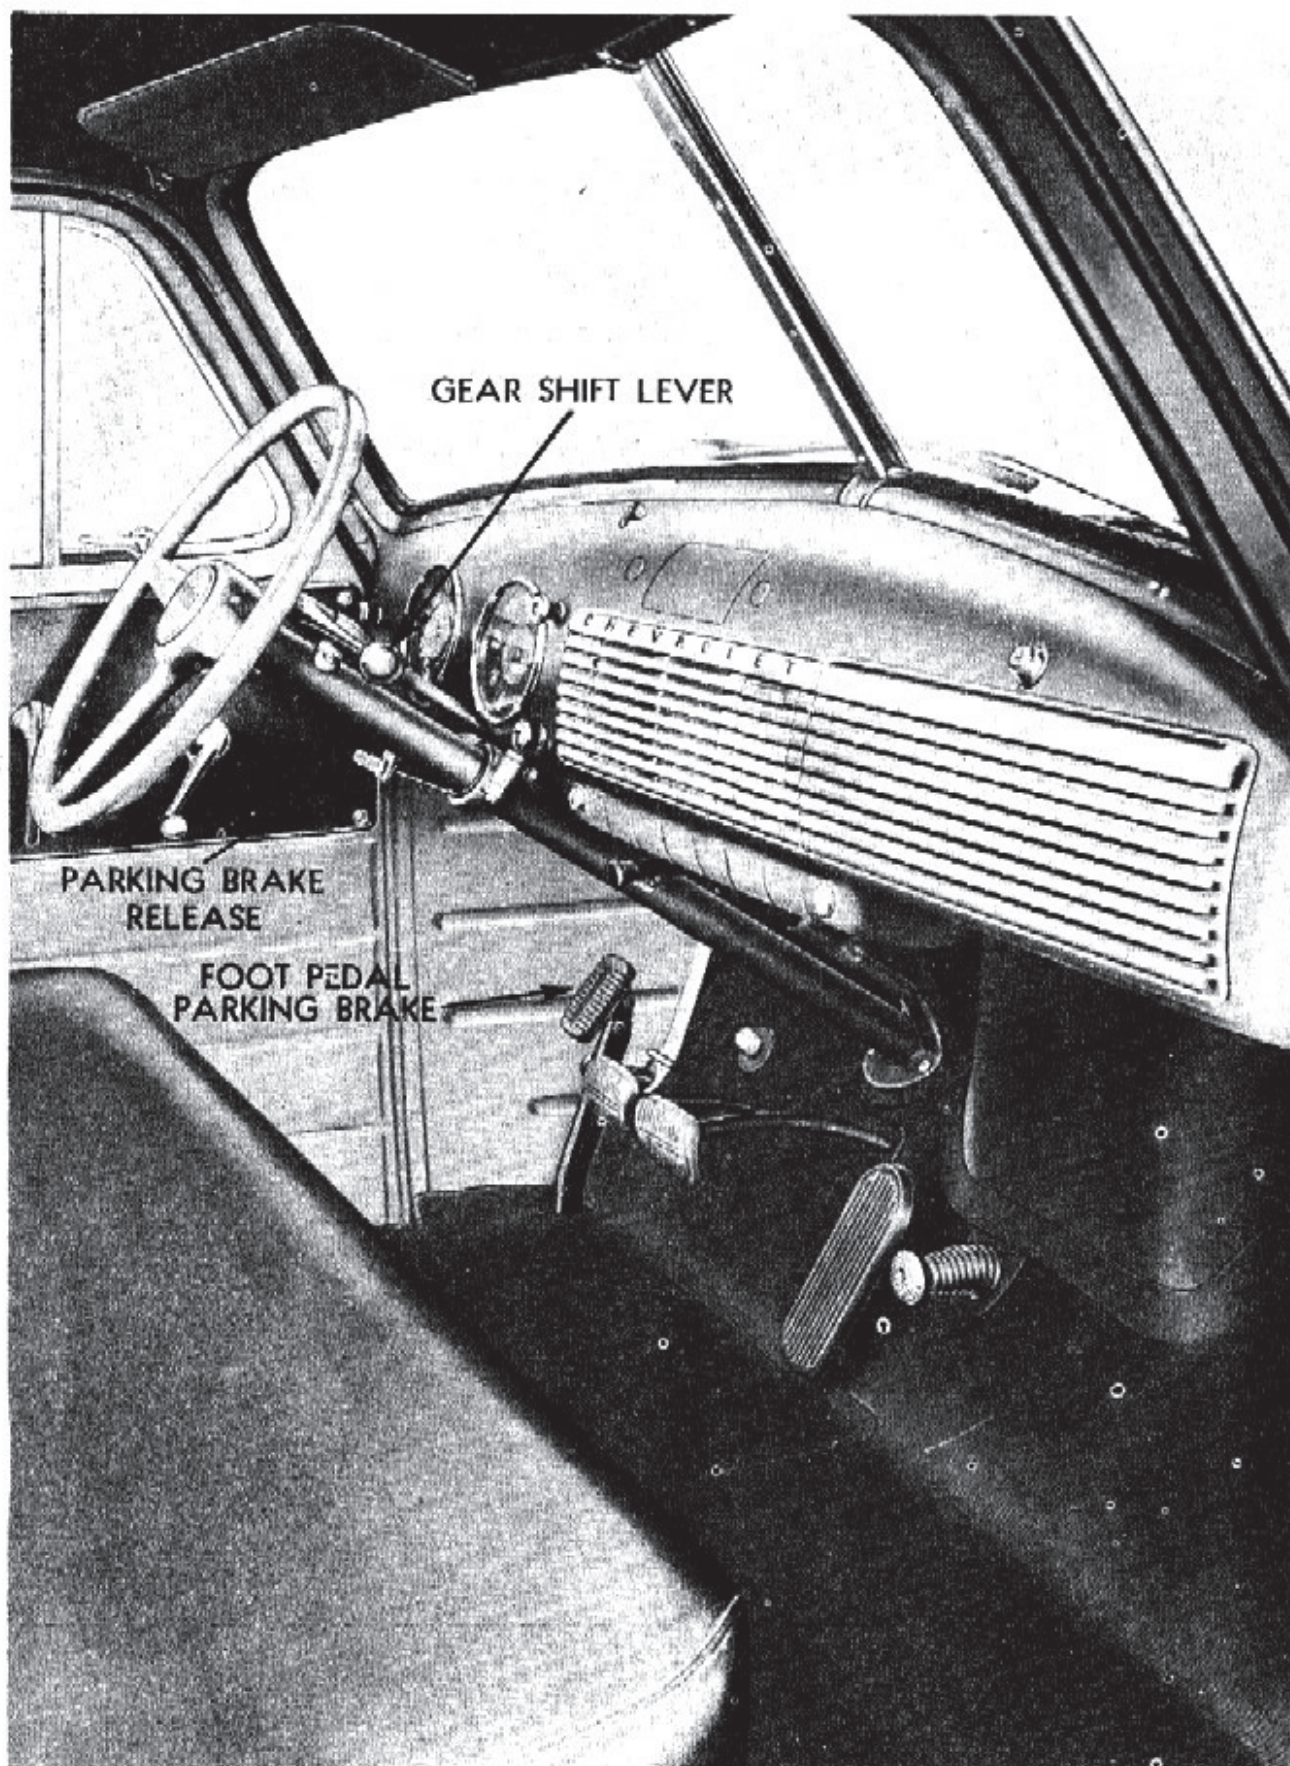

Fig. 1—Controls and Instruments— $\frac{1}{2}$  and  $\frac{3}{4}$  Ton
The type, location and operation of instruments and controls vary on different models and makes of vehicles; therefore, regardless of the experience an owner or driver may have had it is advisable to familiarize one's self with the instruments and controls, and their use before driving this new truck. The locations of the various instruments and controls are shown in figures 1 and 2.
**Gearshift Lever (3-speed Synchro-mesh Transmission).** Gearshift control on all  $\frac{1}{2}$  and  $\frac{3}{4}$  ton trucks with 3-speed transmission is located on the steering column (fig. 1). This mounting at the upper end of the steering column and the gearshift lever are similar to those used on the passenger car. The shift pattern is in a vertical plane instead of a horizontal plane as with the floor mounted gearshift lever.
**Cowl Ventilator Control Knob.** This knob located below the instrument panel in line with the ignition switch (figs. 1 and 2) is used to open and close the cowl ventilator. When the knob is up toward the instrument panel the ventilator is closed and locked. By pushing the lever down and forward, the desired amount of air circulation can be obtained.